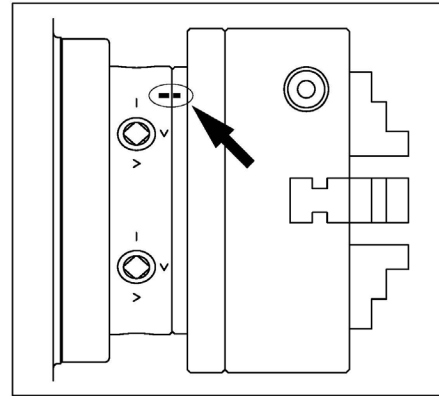

Figure 26. Chuck timing marks aligned.
6. If equipped, align the chuck-to-spindle timing marks (Figure 26), and slide the chuck onto the spindle.